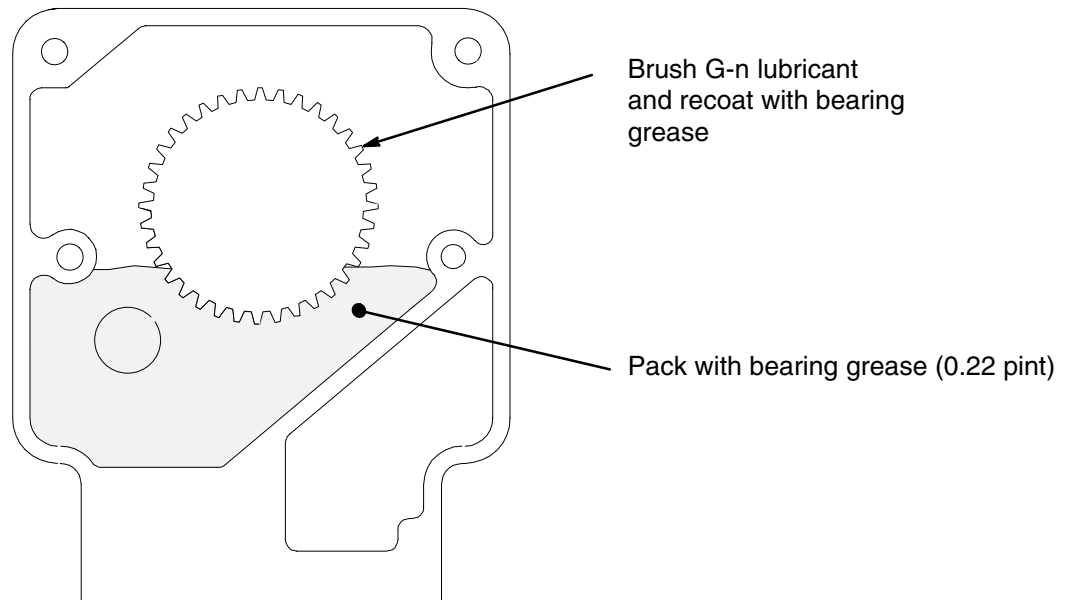

Fig. 6
9. Place the large washer (5) and then the small washer (3) on the crankshaft (8).
10. Insert the crankshaft into the bearing in the drive housing (6) and connecting rod (10).
11. If replacing the complete drive housing assembly (6), brush G-n lubricant (supplied) on all gear teeth. Then recoat the gear teeth with bearing grease (supplied). Pack the remaining bearing grease into the bottom part of the drive housing. Use 0.22 pint of the grease. See Fig. 6.
12. Install gear (19).
13. Install new gasket (64).